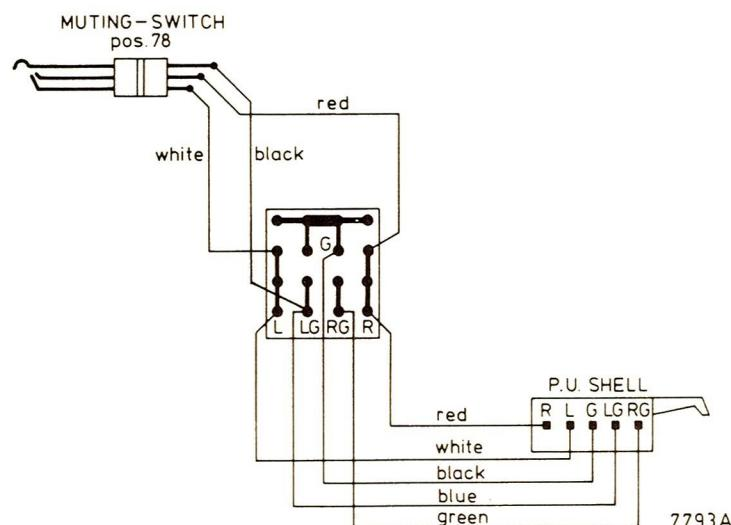

Fig. 1
- In gramophones marked from AH00-536, a changed trip lever 103 has been used. For servicing purposes we supply the changed trip lever 103, ring 102, trip lever plate 104 and command disc 85 as an assembly under code number 4822 522 31197. The items 85, 103 and 104 are no longer supplied as separate parts. If one these parts is defective, it should be replaced with an assembly.
- During production the wiring of the print plate has been changed (see Fig. 1). Reason: Preventing any hum when the pre-amplifier 22 GH 915 is used.
- Tijdens de productie is de bedrading van het printplaatje gewijzigd (zie Fig.1). Reden: Het voorkomen van eventuele brom bij het gebruik van de voorversterker 22 GH 915.
- b. En cours de production le câblage de la petite platine, a été modifié (voir fig.1).